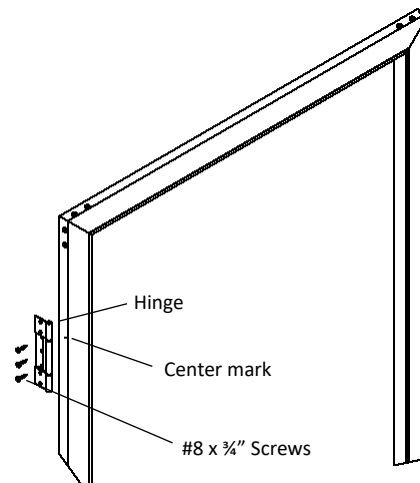

Fig. 4
1. Attach top hinge to door using small centering mark 9_1/16" from top of door designating top hinge center screw location. (Fig. 4) **NOTE:** Door may be installed with screen retention grooves toward inside or outside, left, or right hand hinged. Use only center portion of hinge to attach hinge to door. (This portion of hinge is contoured to fit into outer edge of doorframe.) Install (3) #8 x 3/4" self-tapping screws per hinge. Do NOT fasten center or bottom hinge to door at this point. Do NOT over tighten screws.
1. Attach top hinge to door using small centering mark $9\frac{1}{16}$ ” from top of door designating top hinge center screw location. (Fig. 4) NOTE: Door may be installed with screen retention grooves toward inside or outside, left, or right hand hinged. Use only center portion of hinge to attach hinge to door. (This portion of hinge is contoured to fit into outer edge of doorframe.)